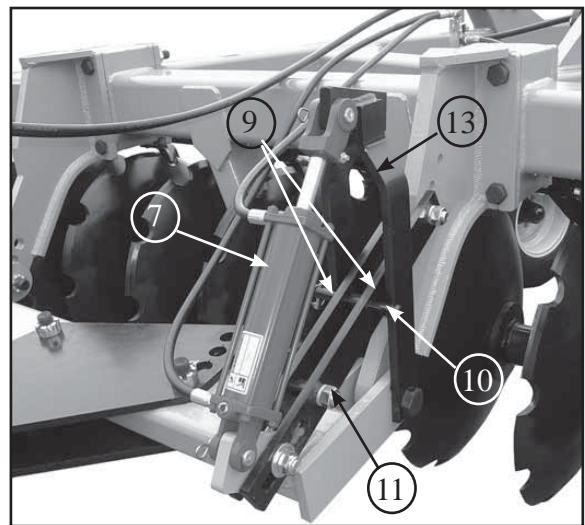

Figure 12 - Leveling Cylinder
1. Install the leveling cylinder transport pin (8) in the lift position holes (10) in the leveling cylinder leveling bars (9) (Figure 12).